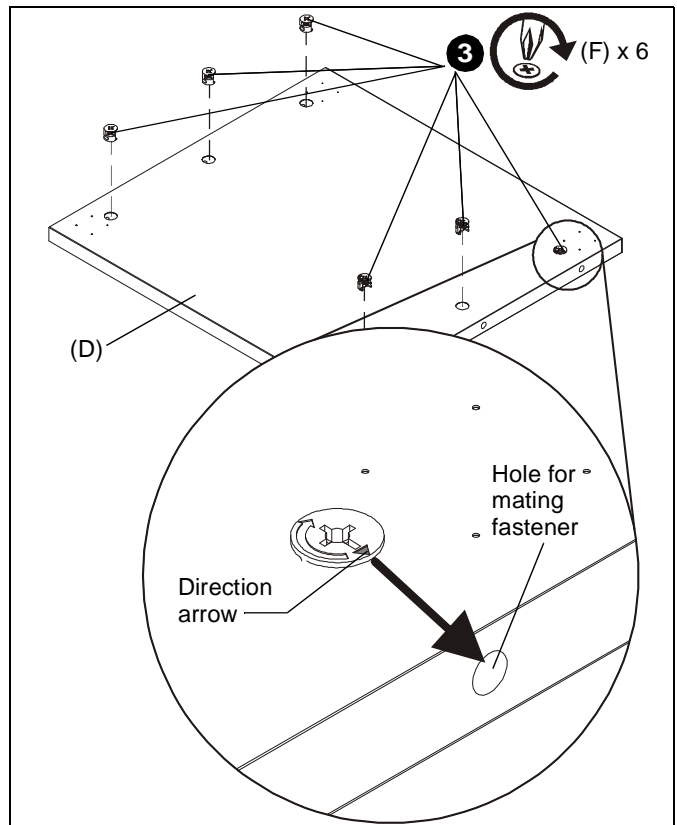

Figure 4
4. Add six cams (F) into bottom of rack base (D). (See Figure 4)
IMPORTANT ! : Insert the cams with direction arrow pointing to holes for mating fasteners. (See Figure 4)